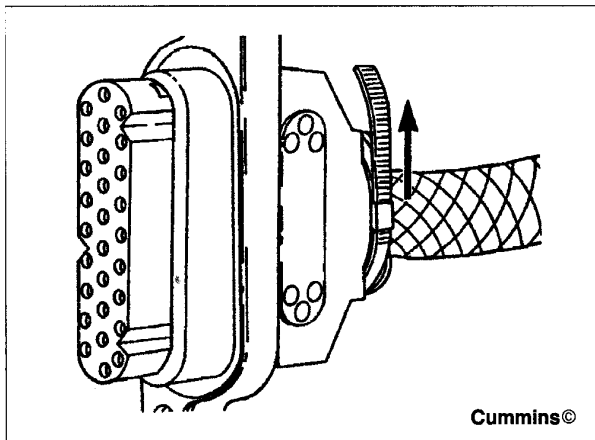

Figure 77 Install New Plastic Wire Tie
12. Install a new plastic wire tie, Cummins Part No. 3822924, through the cover and around the rear of the connector (Figure 77).